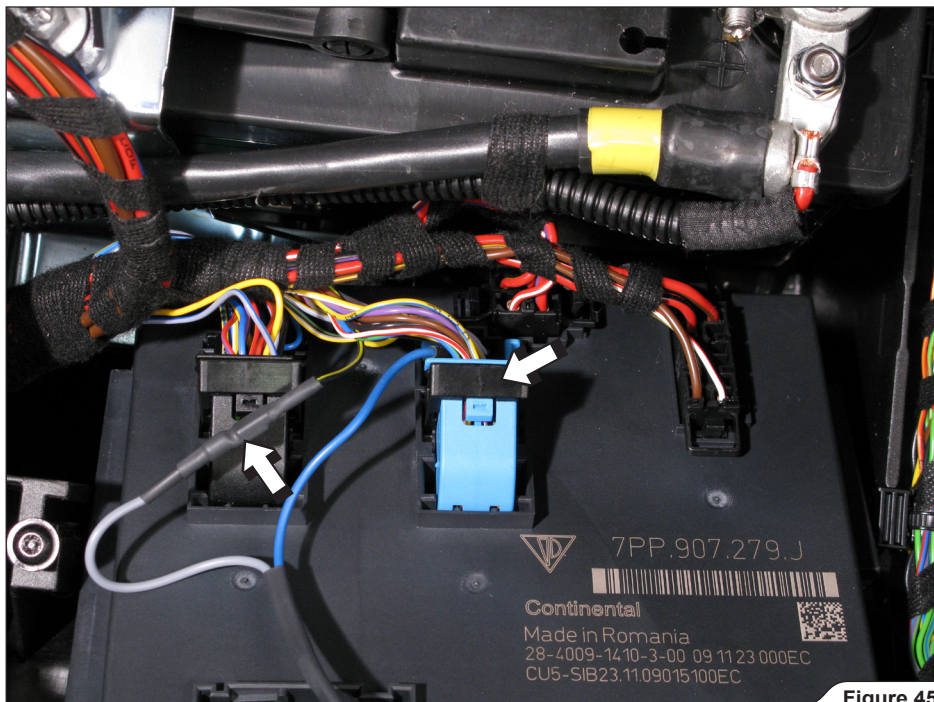

Figure 45
9. Connect the original blue connector back into the ECU and insulate the wire connection (grey wire - black with yellow stripe wire), using heat shrinkable insulation (included in Akrapovič kit) (**Figure 45**).